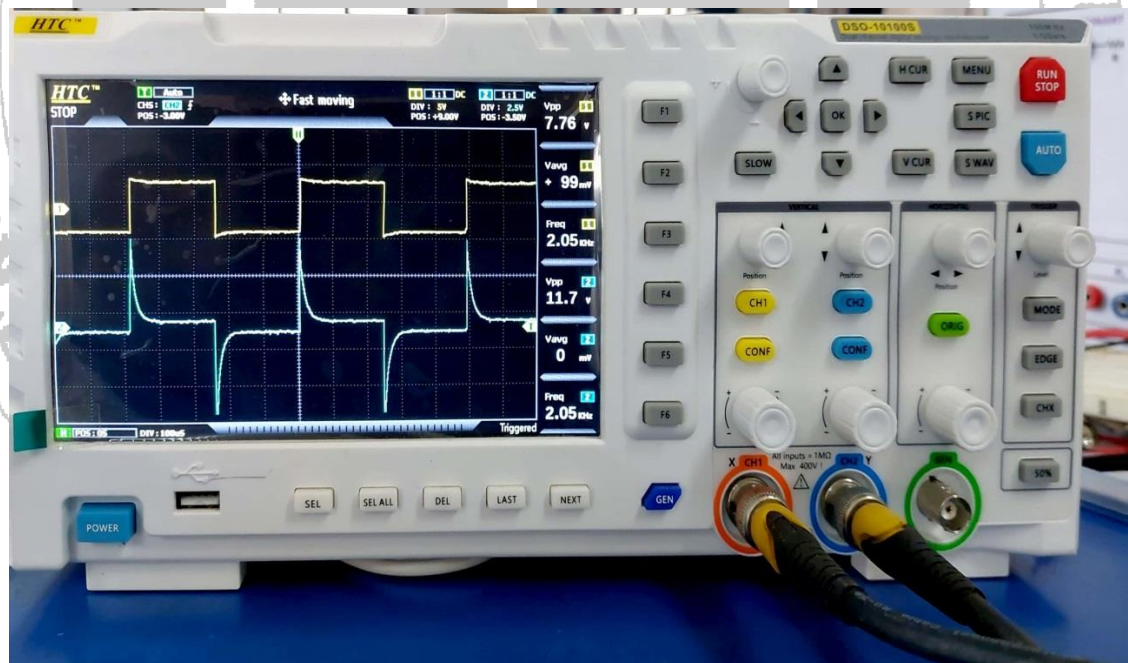

Fig 5.5
6. Observe the response across an inductor L on DSO or CRO as shown in fig 5.5.